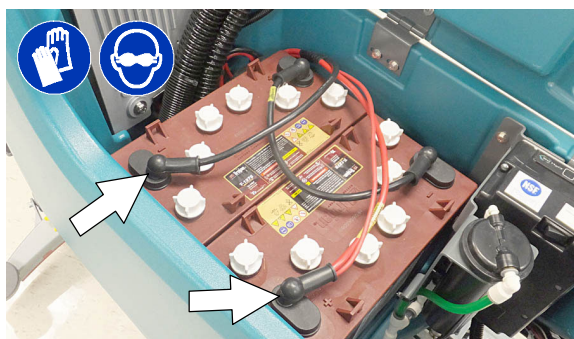

FIG. 82
1. Disconnect battery cables (Figure 82).